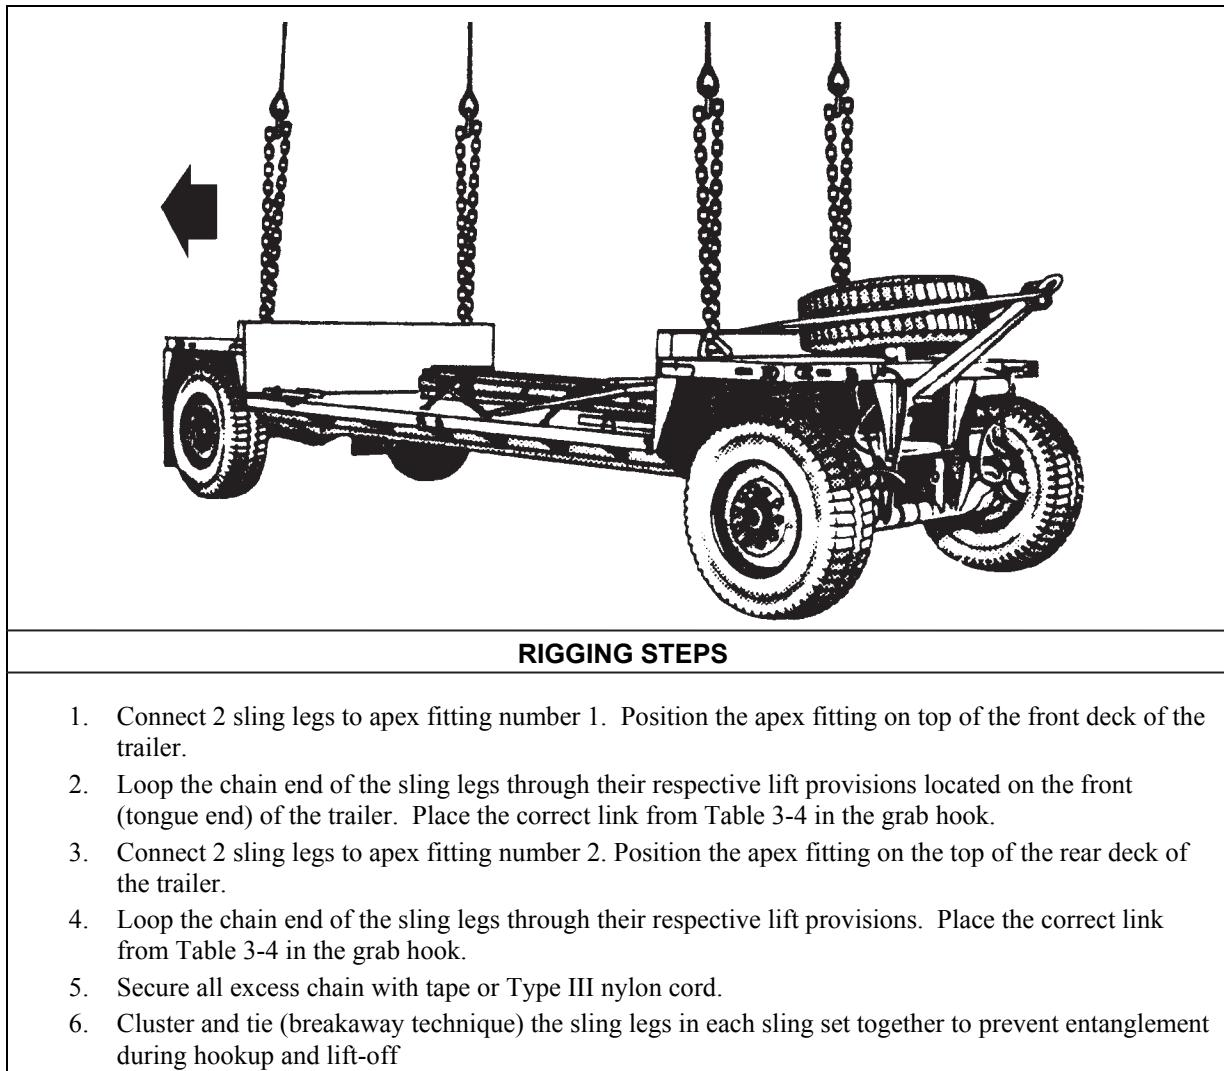

Figure 3-4. M989A1 Heavy-Expanded Mobility Ammunition Trailer II
- **Rigging.** Rig the load according to the steps in Figure 3-4.